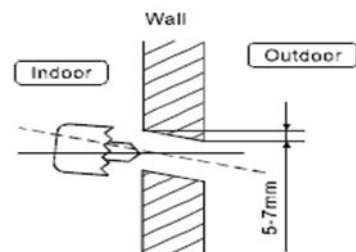

Figure 5
3. Drill the piping hole at either the right or the left side. The hole should be slightly slanted to the outdoor side for condensate water drainage. See figure 5